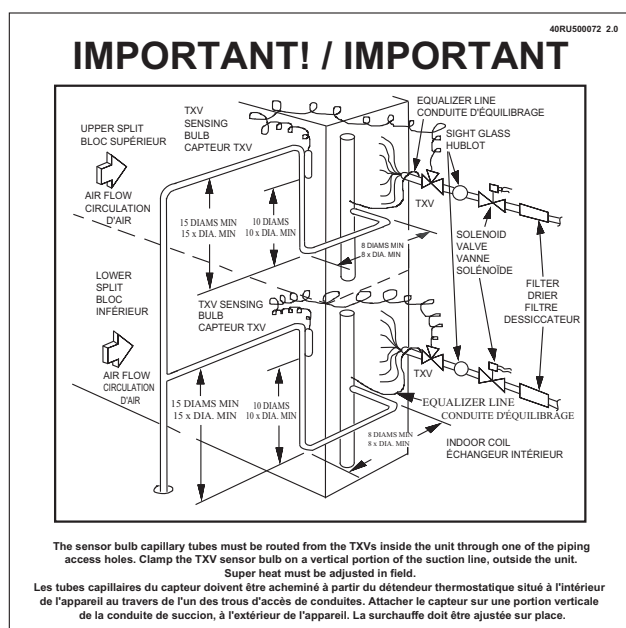

Fig. 21 — TXV Bulb Location Label
- Is TXV bulb located on suction tube per Fig. 21?